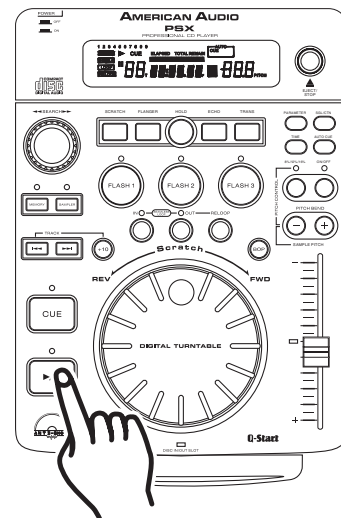
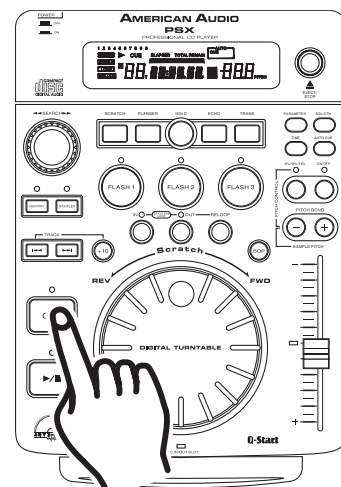
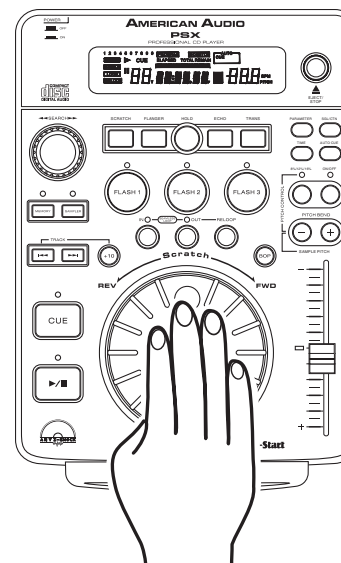

Figure 11
Figure 12
Figure 13
3. STARTING PLAYBACK - *Figure 11*
5. STOPPING PLAYBACK - *Figures 11 & 12*
- 1) Press the *PLAY/PAUSE BUTTON* (15) during playback. This will pause playback at the exact same point the *PLAY/PAUSE BUTTON* (15) was pressed.
- 2) Press the *CUE BUTTON* (13) during playback. This will pause playback and return the track to the last set cue point.
6. PAUSING - *Figure 11*
This feature allows you to scroll through a track frame by frame, allowing you to find and set a starting cue, sample, or loop point. To use the scroll function you must first be in Pause Mode (see section 5) or Cue Mode (see section 7). Once you are in Pause or Cue mode, turn the *JOG WHEEL* (14) to scroll through the track (Figure 13). Turning the wheel in a clockwise direction will advance the frame search and turning the wheel in a counter-clockwise direction rewinds the frame search. When you use the *JOG WHEEL* (14) the monitor (headphone level) function allows you to here what you are scrolling through. Once you reach your desired starting point you can set a cue (starting) point by pressing the *PLAY/PAUSE BUTTON* (15) as in Figure 11. Pressing the *CUE BUTTON* (10) as in Figure 12 will now return you to the point you just set.
- 3) Press the *OUT BUTTON* (18) to set the ending point for your SEAMLESS LOOP (Figure 13). The *IN BUTTON* (12) and *OUT BUTTON* (18) LEDs will immediately begin to flash rapidly, indicating the SEAMLESS LOOP mode has been activated.
EXITING A LOOP - To exit a SEAMLESS LOOP, press the *OUT BUTTON* (18). The *IN BUTTON* (12) and *OUT BUTTON* (18) LEDs will remain on, but will stop flashing. Music playback will resume normal play (Figure 13). The *IN BUTTON* (12) and *OUT BUTTON* (18) LEDs will remain on to remind you that a loop is stored in memory.